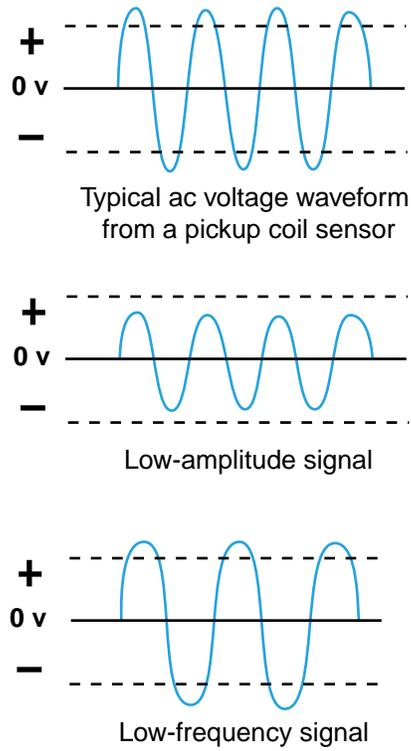

Figure 9-17 Typical speed sensor voltage waveform (top) compared to a low-amplitude signal (center) and a low-frequency signal (bottom).
an oscilloscope (scope) is the height above and below the reference line usually labeled zero (0). Although the signal frequency or speed varies with the wheel speed, it must be smooth and operate at a uniform amplitude. Figure 9-17 shows an example of a typical speed sensor voltage signal, along with examples of low-amplitude and low-frequency signals.